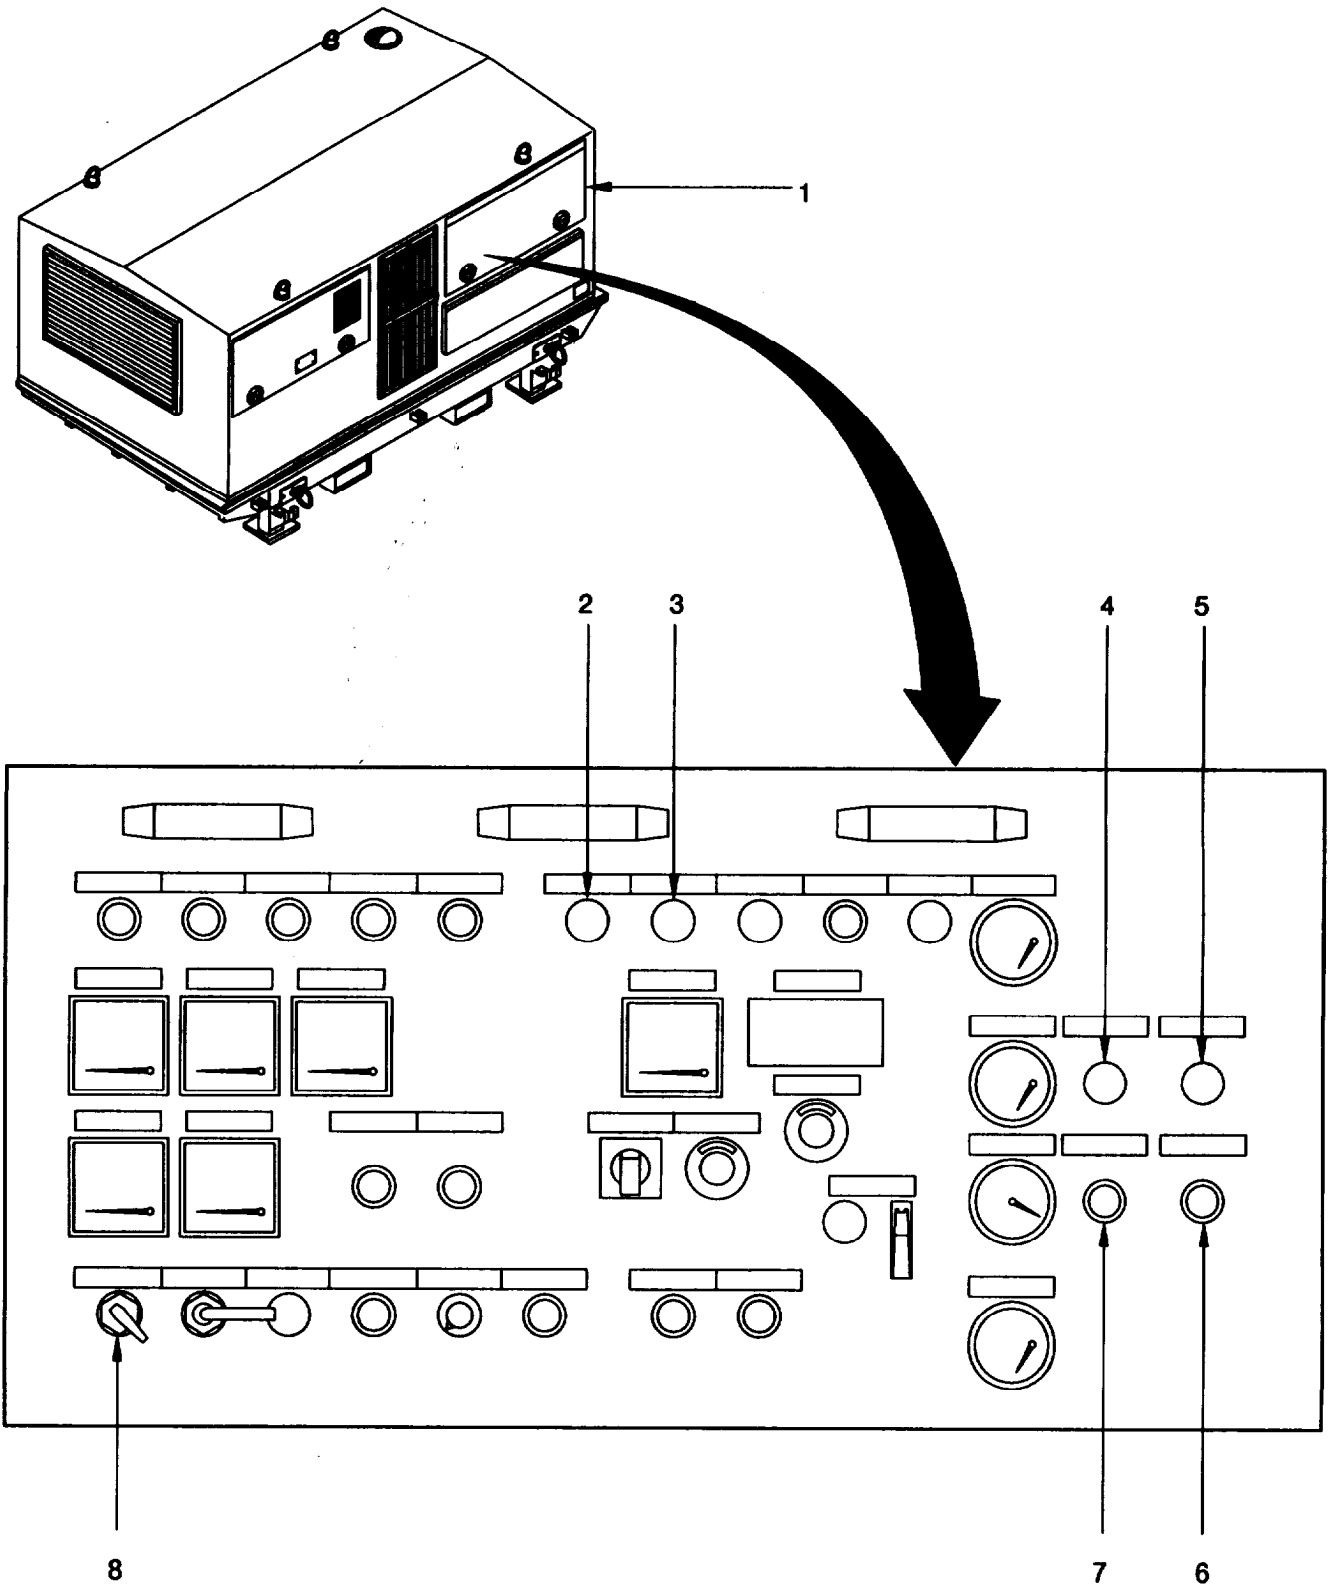

Figure 2-27 Operating the Engine Preheating Assembly.
- b. Open flap (1, figure 2-27) Control cabinet assembly controls and indicators are accessible.
- c. Set MASTER SWITCH (8) to ON (Position Four):